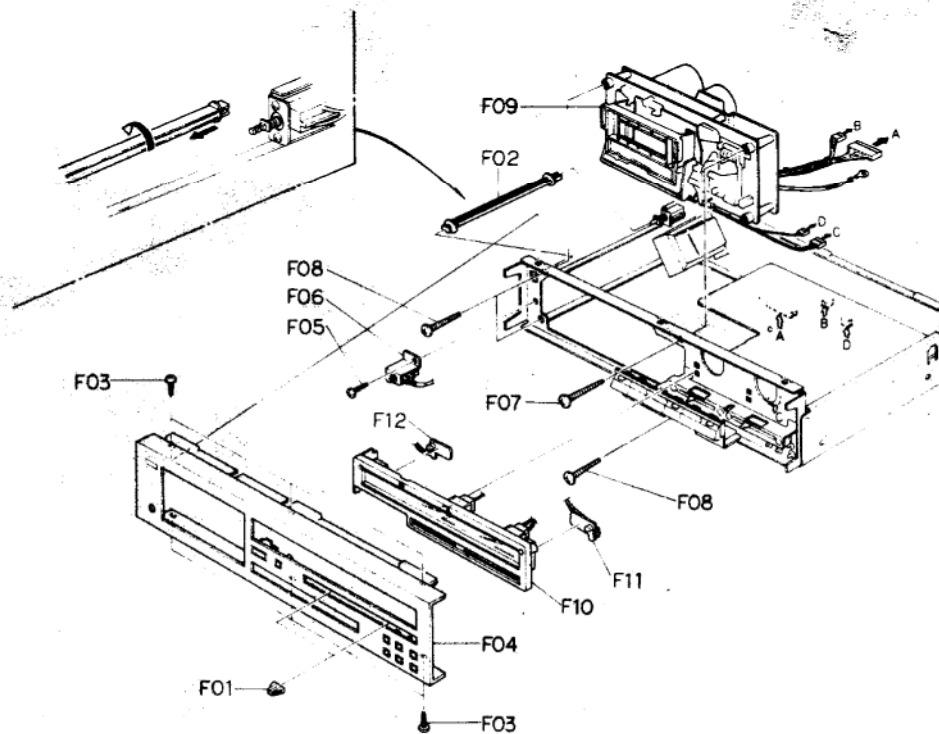

Fig. 3.2
Refer to Fig. 3.2.
- 1) Refer to Fig. 3.2. Remove Front Panel Ass'y referring to item 3.4.
- 1) Refer to Fig. 3.2. Remove Meter Ass'y referring to item 3.7.
- (1) Refer to Fig. 3.2. Remove Mechanism Ass'y referring to item 3.6.
- (2) Press the Eject Button to open the Cassette Case Ass'y.
- (3) Remove F01, then disassemble the piston of the Pneumatic Damper Ass'y.
- (4) Remove F02 and F03 (Cassette Case Holder L Ass'y), then disassemble F04 (Cassette Case Ass'y).
- (5) Remove F05, then disassemble F06 (Cover Plate Ass'y).
- (1) Refer to Fig. 3.2. Remove Meter Ass'y referring to item 3.7.
- (2) Remove F07, then disassemble F08 (Tape Counter Ass'y).
- (2) Remove F01 and F02, then disassemble F03 (Flywheel Holder Ass'y) and F08 (Capstan Belt).
- (3) Remove F04, then disassemble F05 (Capstan Motor Ass'y).
- (4) Remove F06, then disassemble F07 (Control P.C.B. Ass'y).
- (5) Remove F09 (Supply Flywheel Ass'y), then disassemble F10 (Take-up Flywheel Ass'y).
- (6) After removing both Flywheel Assemblies, disassemble F11 (Thrust Washer 3 mm), F12 (Thrust Washer 2.6 mm), F13 (Flange Thrust Caps) and F14 (Thrust Springs).